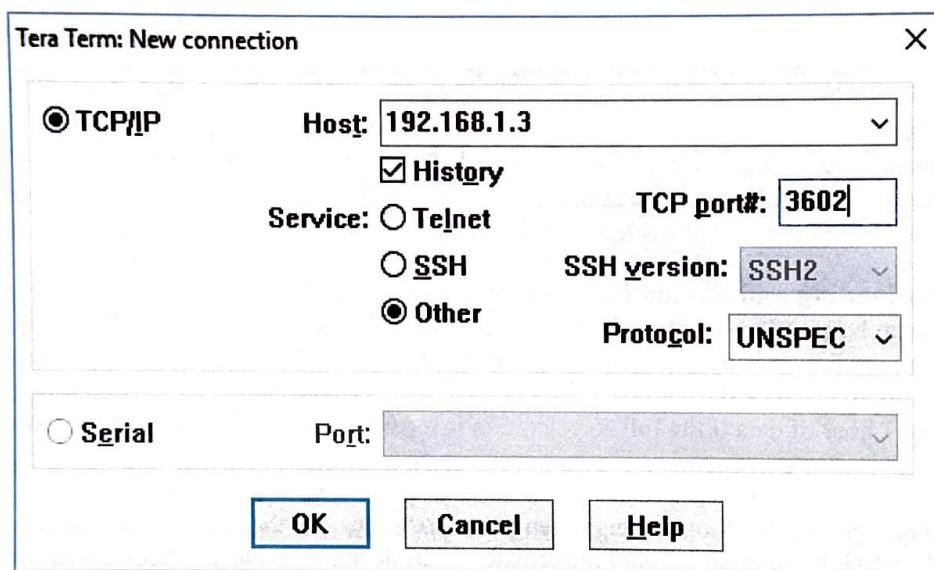

Figure 12
1. In your terminal program open a TCP/IP connection setting the Host to the IP Address of the WRPAS unit, set the port to 3602, the service is “other” and the protocol to unspecified. These last two may be different or not necessary on some terminal programs. In TeraTerm it will look like the following (Figure 12):